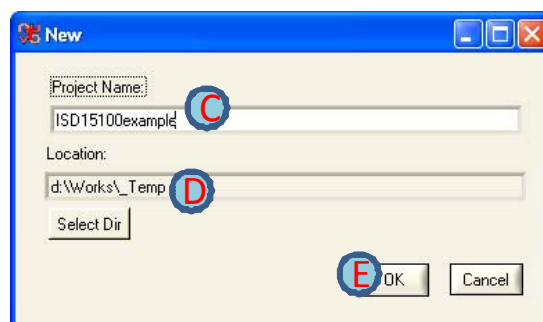

Figure 2-2 Create a New Project
On the menu bar, click 'Project' (B) -> 'New', and users shall see a pop-up window as Figure 2-2. Type in the desired project name (C) and assign a project location (D). Click 'OK' (E), and users shall see the project path shown on the subject bar (F). In the assigned location users shall see that a project folder has been created.